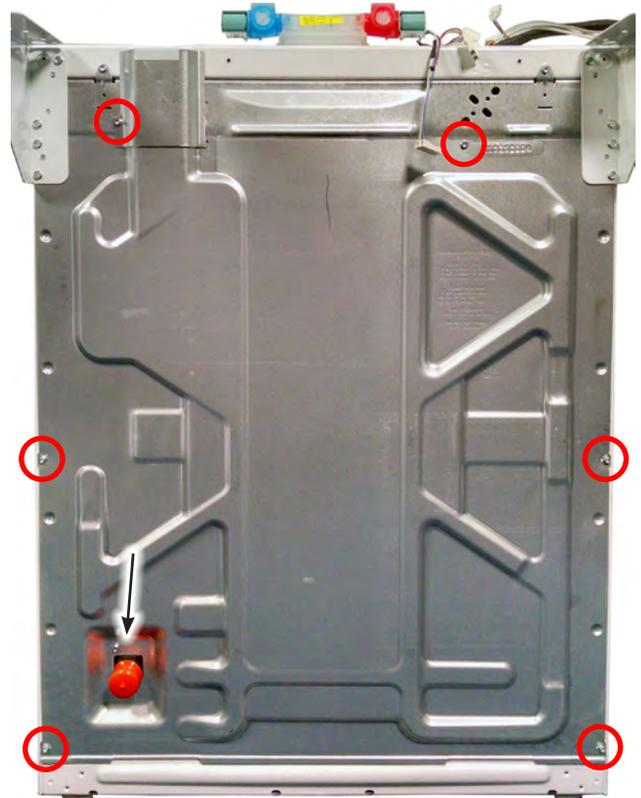

Figure 2
5. **Remove Washer Rear Panel.** Use a 5/16" driver to remove the six (6) hex head screws indicated in Figure 2, securing rear panel to washer cabinet.